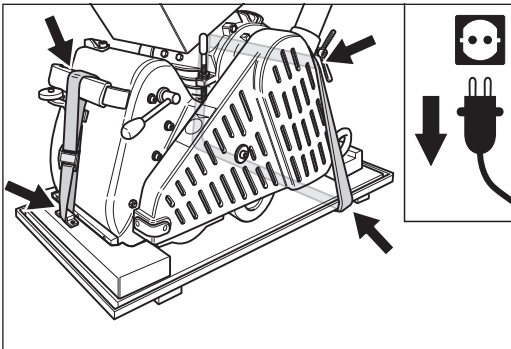

Fig. 44 Transport or storage of the machine on the bottom part of the transport crate.
- **During transport or storage, the machine can also be firmly lashed to the bottom part of the supplied transport crate using two belts (Fig. 44)! This will prevent damage to the sanding drum and stop the wheels becoming out of round!**
When storing for long periods, place the machine on the bottom part of the supplied transport crate (Fig. 44)! This will prevent damage to the sanding drum and stop the wheels becoming out of round!